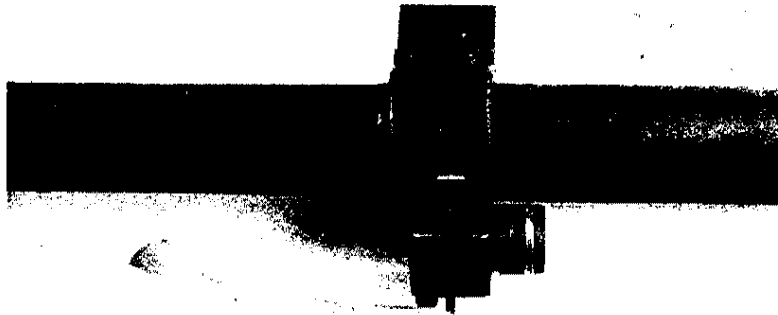

FIGURE 35. CLEANING GAS PORT
5. Gas Port. Using a suitable reamer (figure 35) clean the gas port in the barrel removing any carbon buildup.